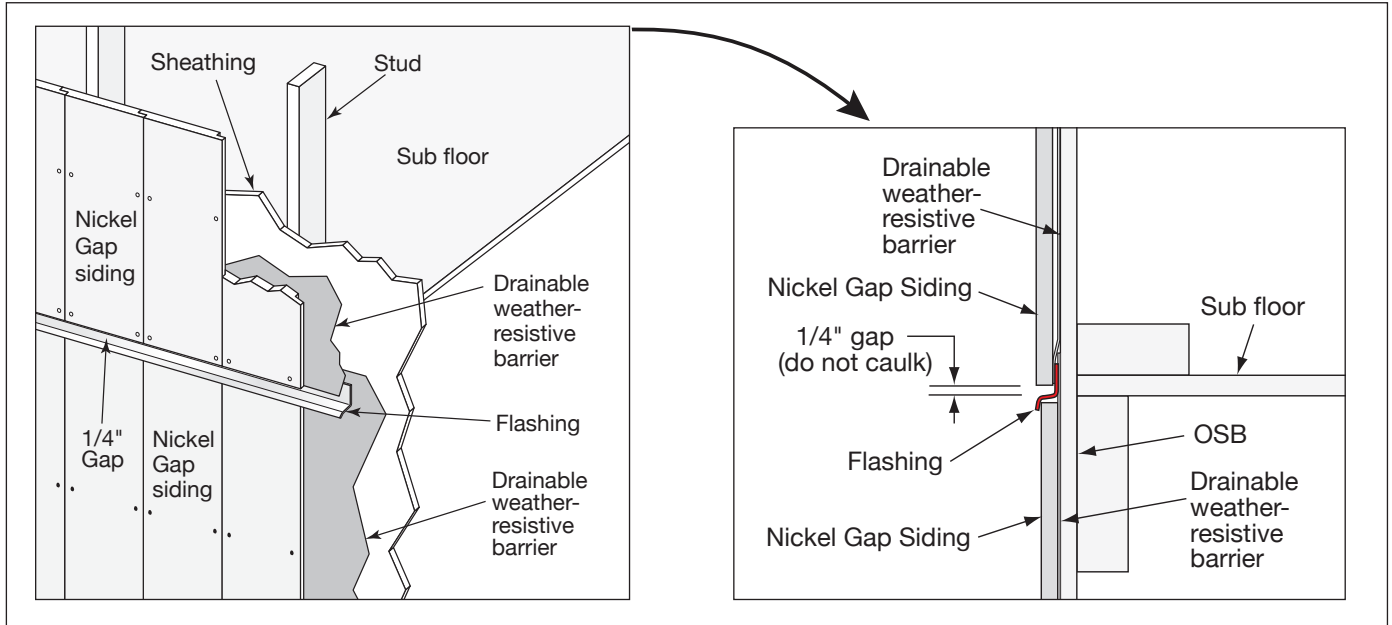

Fig. 26
- 1/4" gap is required above all horizontal flashing (**Fig. 26**)